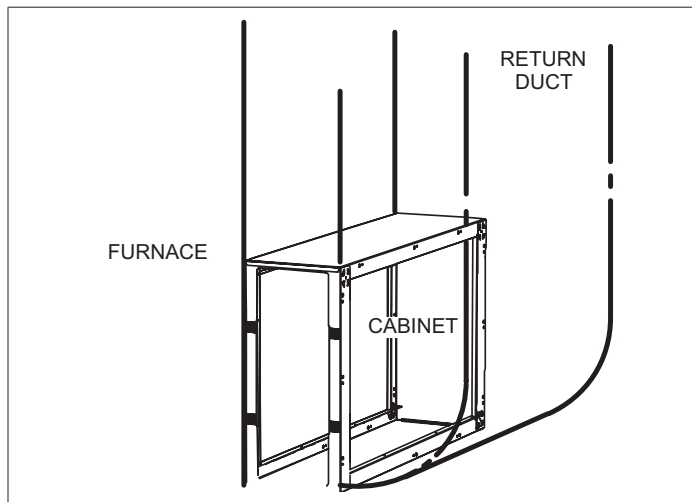

Figure 13. Attach Cabinet to Furnace and Duct
3. Secure the cabinet to the furnace using sheet metal screws in the pre-drilled cabinet mounting holes (see Figure 13).